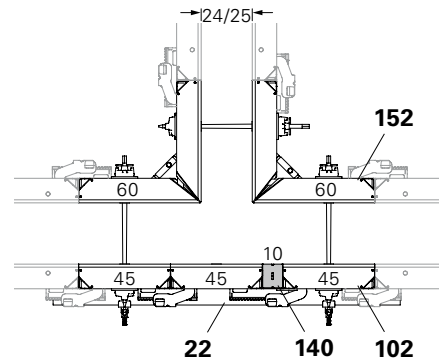

Fig. B5.04
- Wall thickness 24/25: Fig. B5.04